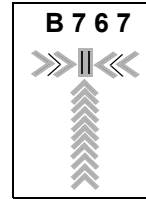

Figure 1
3.3 When the solid yellow closing rate field appears, the aircraft has been caught by the scanning unit. The scanning unit now checks that the aircraft is the correct type and the display provides azimuth guidance information (see figure 1).